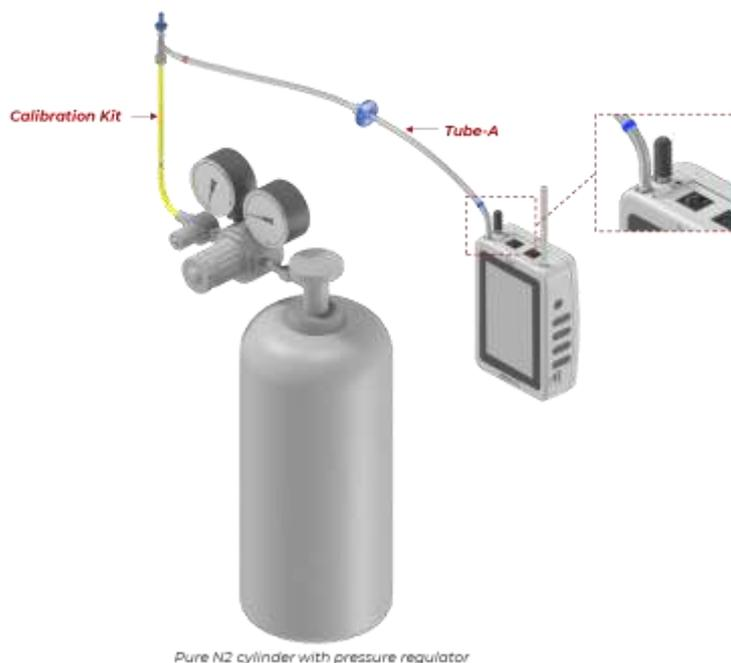

Figure 21. CO2-O2 Zero Reset using the Calibration Kit.
1. **CO2-O2 (recommended):** This Zero Reset procedure involves utilizing **Pure Nitrogen (N2)** for resetting both the CO2, as well as, the O2 sensors. In order to proceed with this method, connect the N2 gas at **1 barg** to the diffusion port on LEO 2.0 (**IN**) using the provided **Calibration Kit** (Figure 21), which guarantees a flow of 150-180 ml/min, and follow the on-screen instructions.